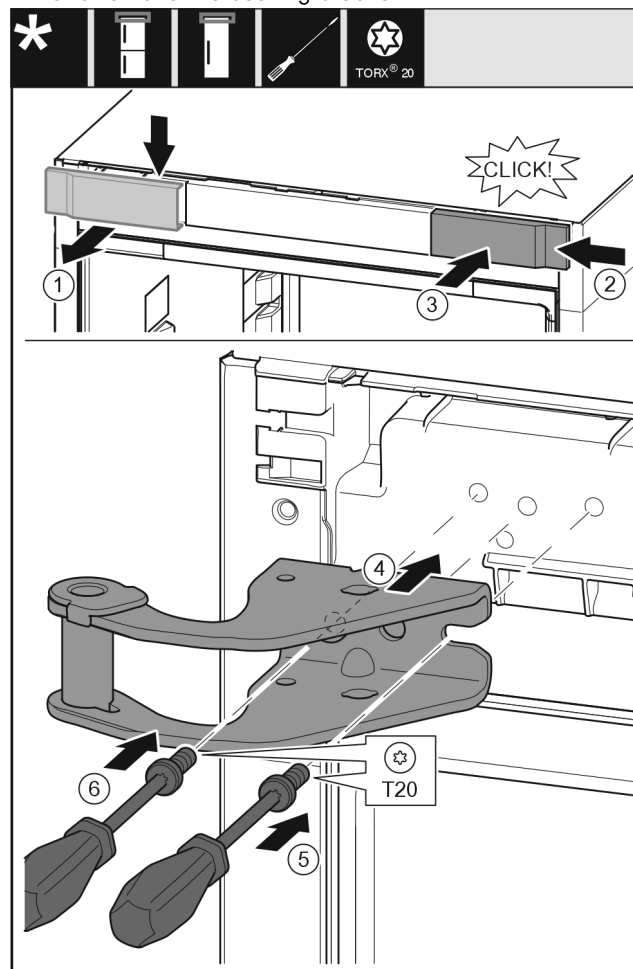

Fig. 11
- Take off the cover to the front from above. Fig. 11 (1)
- Rotate the cover 180° and clip onto the other side from the right. Fig. 11 (2)
- Latch the cover into place. Fig. 11 (3)
- Position the upper bearing bracket. Fig. 11 (4)
- Insert the screw with a T20 screwdriver and tighten it. Fig. 11 (5)
- Insert the screw with a T20 screwdriver and tighten it. Fig. 11 (6)